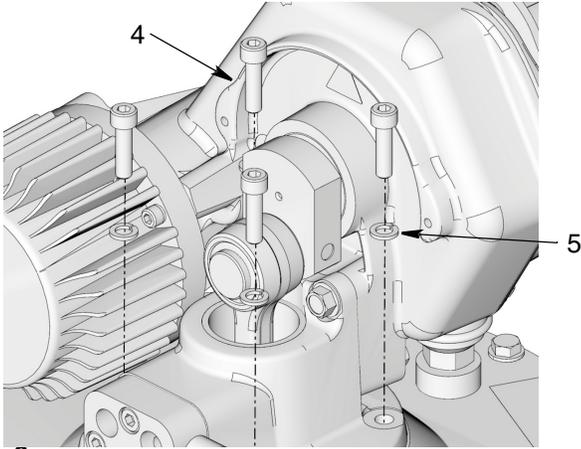

FIG. 6
6. Align holes in pump base with holes in drum cover (1) (FIG. 6). Securely fasten pump to drum cover using screws (4) and washers (5) removed in Step 2, page 3.